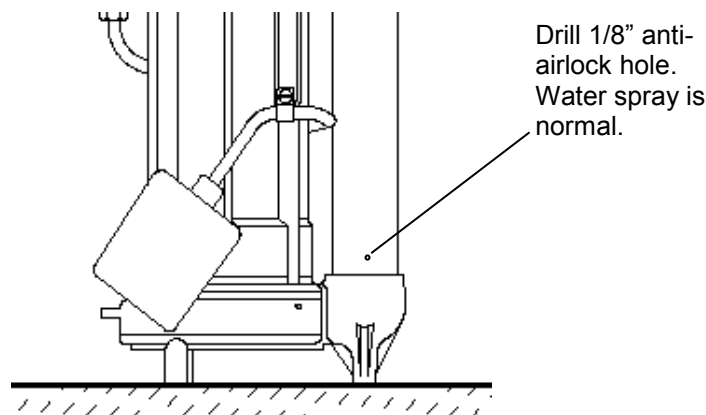

Fig. 1 – Anti-airlock hole position
7. If a check valve is used, a 1/8" anti-airlock hole should be drilled in the discharge pipe just above the pump's discharge outlet to prevent pump "airlock" (see Fig. 1)